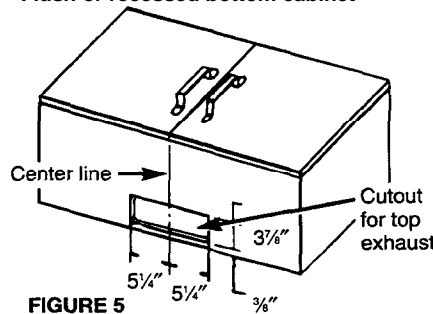

FIGURE 5
**Type "C" Models:** See Figs. 5, 6 and 10.